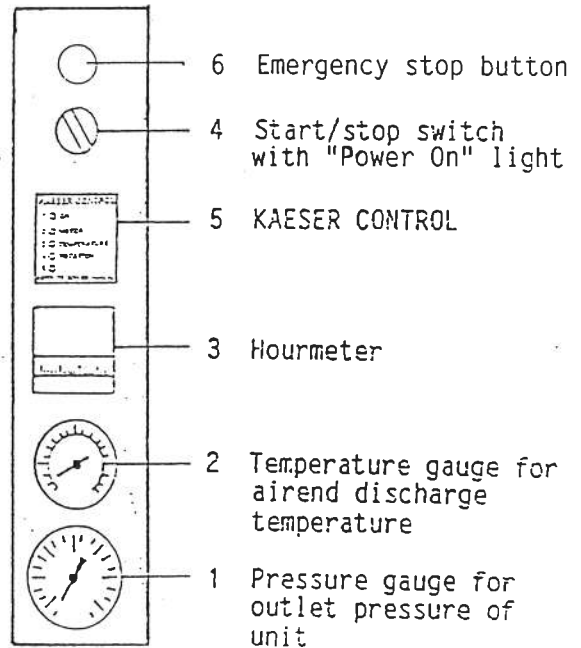

Figure 4
- Switch on the unit (4, Figure 4) and check the direction of rotation of the compressor pulley or motor pulley. Arrows on motor and airend housing indicate direction of rotation.
- Turn the start/stop switch (4, Figure 4) to the start position.
- Turn the start/stop switch (4, Figure 4) to the stop position.
Before opening the controller door the "POWER ON" (4, Figure 4) light must never be used as a positive indication that power has been shut off. A burned out bulb can give a false indication.
Figure 4 a
After the trouble has been eliminated, the unit must be reset. For that reset the switch (4, Figure 4) from START to STOP.
- After switching on main disconnect switch, start unit at start-stop switch (4, Figure 4).